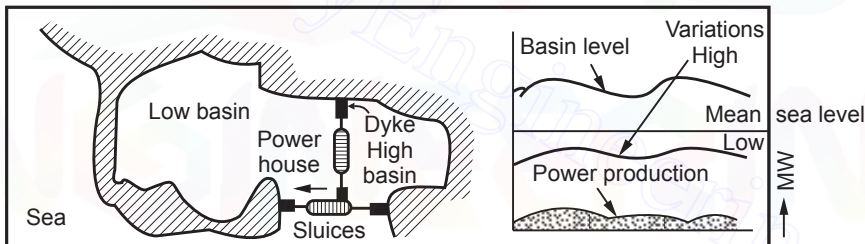

Fig. 5.1.13 Double basin, one-way tidal plant
- In this arrangement, the turbine is set up between the basins as shown in Fig. 5.1.13.